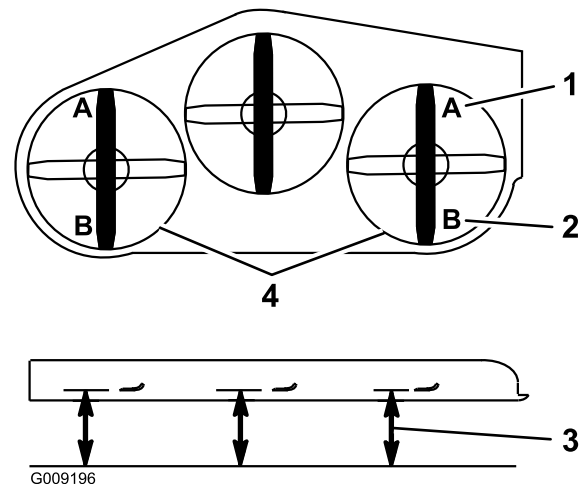

**Figure 91**
5. Push the deck-lift pedal all the way forward and the deck latches at the 14 cm (5-1/2 inches) transport position (Figure 91).